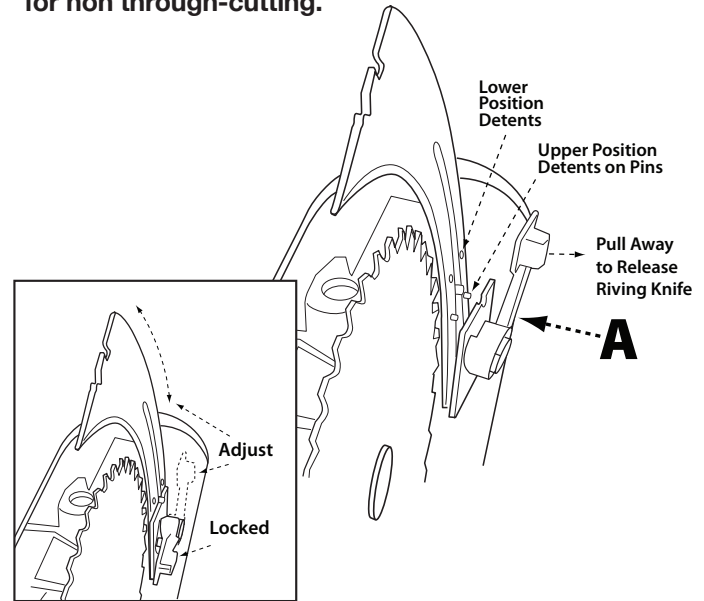

FIGURE 16
3. Pull riving knife release lever (A) up to release riving knife from clamping mechanism. See Figure 16.